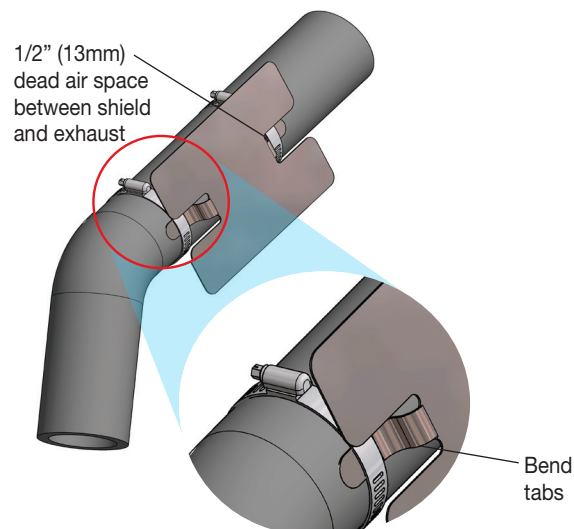

fig. F.6
1. Attach the metal heat shield to the exhaust where it is closest to the passenger's (right) side air spring. (Fig. F.6).